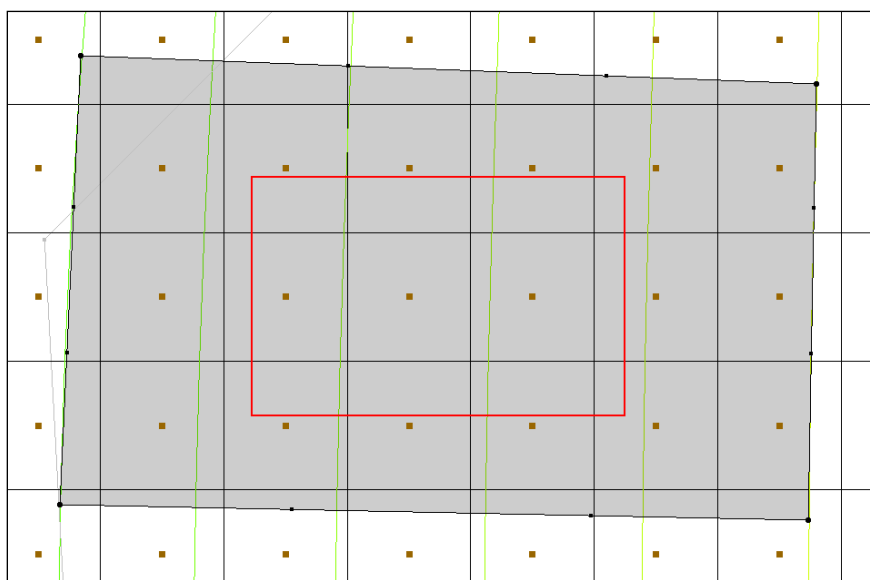

Figure 5 The polygon created from the boundary arcs
- Click **Build Polygons**  to create a polygon from the arcs. The polygon is indicated by the area within the arcs changing to a light gray (Figure 5).